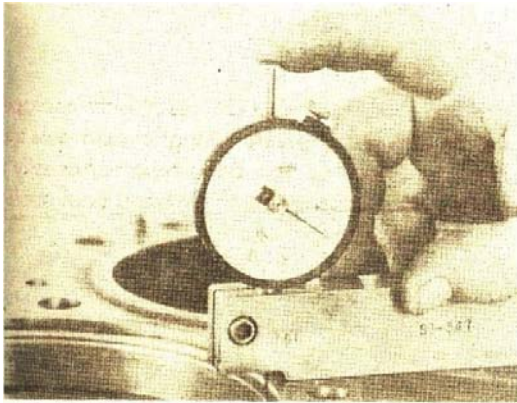

Fig. 14-10, Check the liner protrusion with a ST- 547
7. Install the ST-1267 Liner Hold-Down Clamps. Tighten to 50 ft-lbs (68 Nom). Use the ST-547 Gauge Block (at four equidistant points) to determine if the liner protrusion is uniform and 0.003 to 0.006 inch (0.08 to 0.15mm). Fig. 14-10.